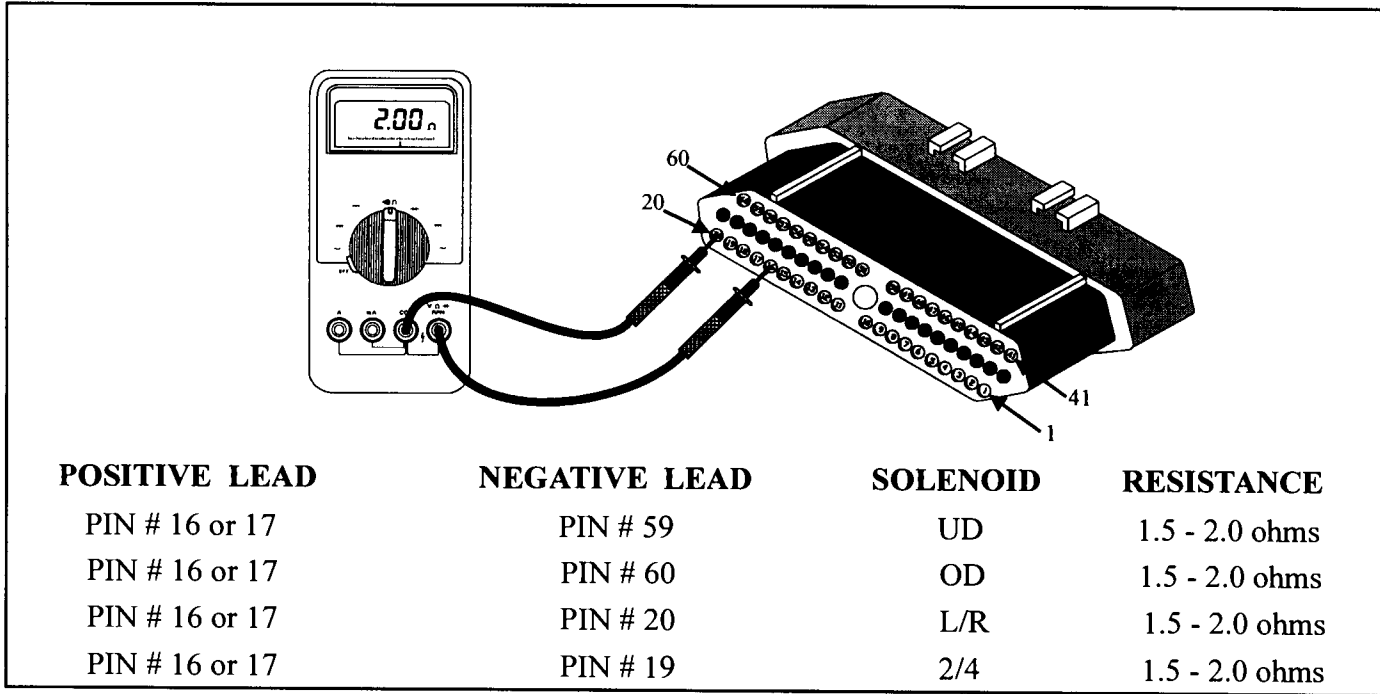

Figure 54
- Unplug the TCM's 60 way connector. Using a DVOM check the resistance of all four solenoid circuits by placing the positive lead onto pin 16 or 17 as seen in Figure 54. With the negative lead, carefully touch pins 19, 20, 59 and 60 one at a time. Each solenoid should measure approximately 1.5 to 2.0 ohms. If the solenoid providing the code reads considerably higher or lower from the other three solenoids, change the solenoid body. If all the readings are the same, wiggle the solenoid wires with the meter still attached and see if the readings behave erratic. If so, the solenoid connector is bad and will need to be repaired.